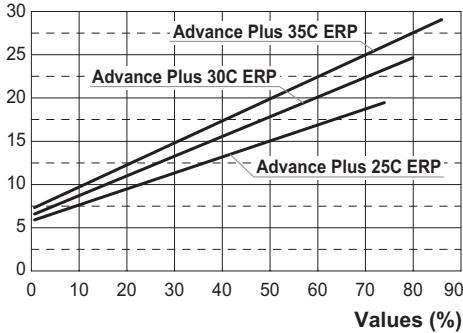

Fig. 7.44
Refer to Fig. 7.44 and determine the correct Value appertaining to the output required for the central heating requirement.
- It is possible to modify parameter using keys 15 or 16 (Fig. 7.45) (Refer to Fig. 7.44 and determine the correct Value appertaining to the output required for the central heating requirement.).